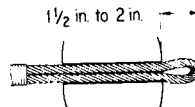

Fig. 14
**7.02** This can most easily be done by placing the eye in a vise so that it is parallel with the jaws and the loop end projects about 1-1/2 to 2 inches beyond the end of the jaws. Then, close the eye by squeezing it between the jaws. When squeezing the eye, it will be necessary to hold it securely at the crotch in order to prevent it from twisting out of the vise as the jaws are closed. If no vise is available, the eye can be hammered into the required shape. (See Fig. 14.)